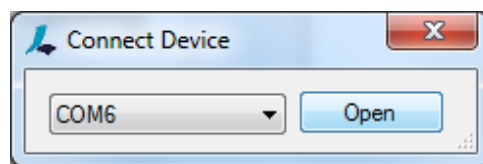

Figure 3.9. Connect Device Dialog
3. From the drop-down menu of this dialog, select the COM port shown in the Device Manager (Figure 3.9).
4. From the drop-down menu of this dialog (Figure 3.9), select the COM port shown in the Device Manager.